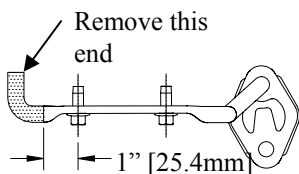

Figure 2
①	Qty. (2)	Carriage bolt, 7/16-14 X 1.75 GR5	⑥	Qty. (3)	Conical washer 1/2
②	Qty. (2)	Spacer (small)	⑦	Qty. (2)	Bolt, M8 X 1.25 X 55 CL9.8
③	Qty. (2)	Conical washer, 7/16	⑧	Qty. (1)	Carriage bolt, 1/2-13 X 1.75 Gr5
④	Qty. (2)	Hex nut, 7/16-14	⑨	Qty. (1)	Spacer (large)
⑤	Qty. (2)	Hex bolt M12 X 1.75 X 45 CL10.9	⑩	Qty. (1)	Hex nut 1/2-13
- Lower exhaust by removing (3) rubber isolators, one behind rear axle. Be careful not to allow mufflers to fall under their own weight. Note: Spraying a lubricant or soapy water on the metal hanger rod and the rubber isolator helps removal.
- Remove exhaust hanger bracket on each side. Return fasteners to owner. Modify driver side exhaust bracket as shown in Figure 2.